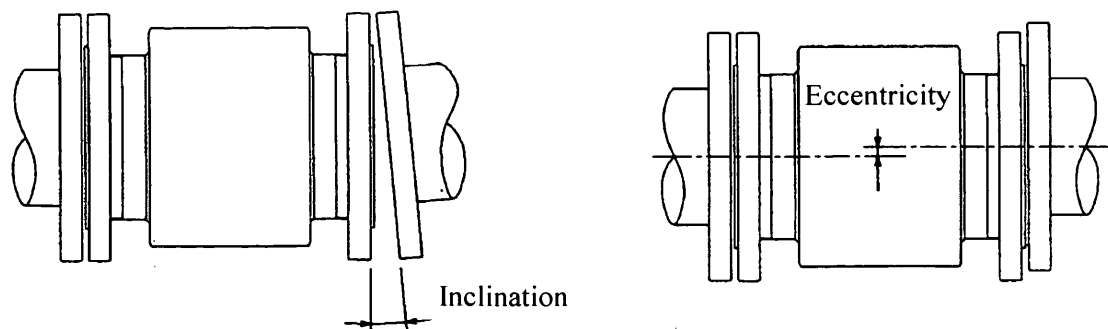

Figure 4.1 Pipe leaning and axis misplacement
(1) Before installing pipes, check for any leaning or misplacement (or eccentricity) as illustrated in Figure 4.1. An attempt to unreasonably connecting pipes that are inclined may lead to a detector breakdown or fluid leakage. Connecting pipes in an eccentric state may also cause local wears and tears of linings and grounding rings, as well as measurement errors.